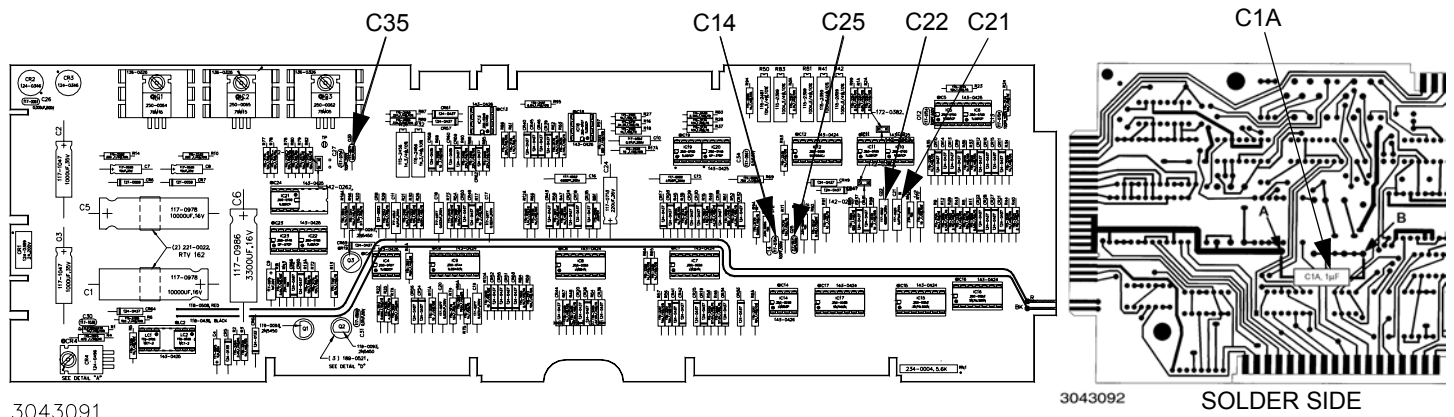

FIGURE 2. A1 BOARD COMPONENT LOCATION
4. Refer to Figure 2 and remove capacitor C35.
8. Install sleeving over leads of Capacitor C1A, part number 117-0207 from Kit. Add C1A at solder side of PCB as shown in Figure 2, from point A to point B. Secure capacitor C1A to PCB using a drop of RTV or similar adhesive.